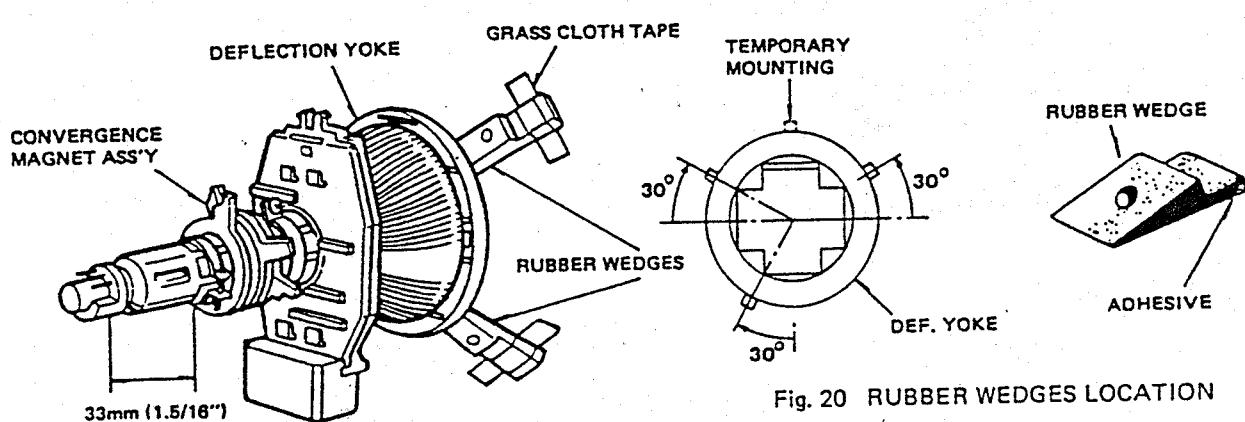

Fig. 20 RUBBER WEDGES LOCATION
- (i) Stick 3 grass cloth tapes on wedges as shown in Figure 20.
Convergence Magnet Assembly and Rubber Wedges need mechanical positioning following Fig. 20.